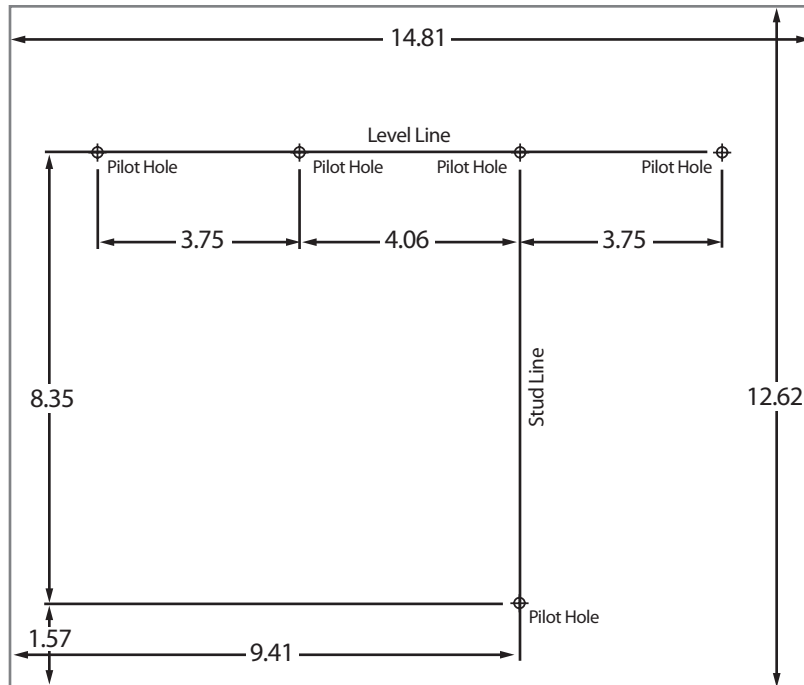

Figure 1
- Attach the mounting template (included; see Figure 1) to the mounting wall where the controller cabinet will be installed. Ensure that the template level line is level and that the stud line on the mounting template is aligned with a wall stud or other solid surface.